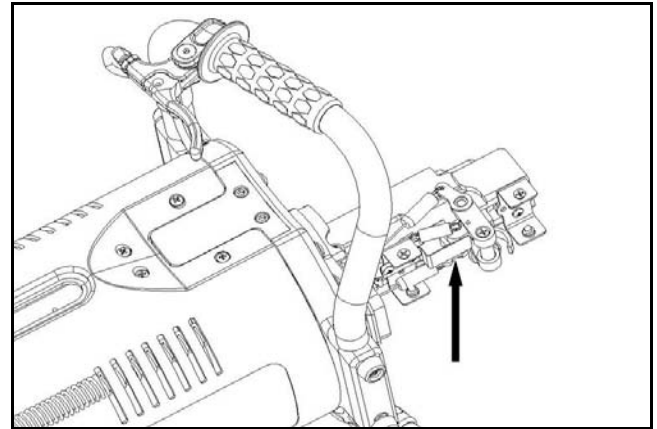

Figure 19 – Bolt Release Lever
3. Slide the Bolt to the rearmost position. Using your finger or small screwdriver depress the Bolt Release Lever located on the Receiver body just forward of the trigger (see Figure 19). Slide the Bolt out of the receiver.